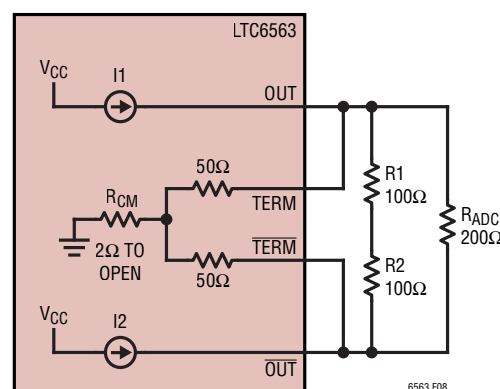
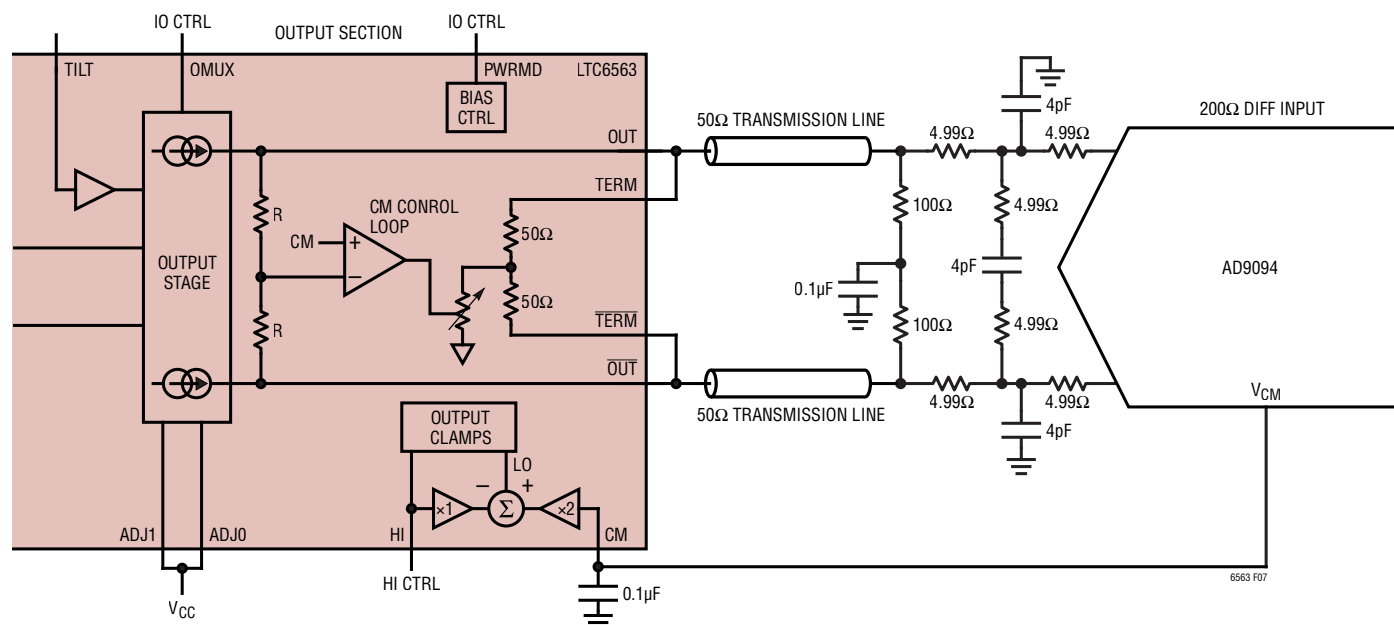

Figure 8. Equivalent Circuit for Driving an ADC with no GND (CM Referenced) External Load
Figure 7. Typical Connection for CM Control/ADC Driving
CM servo loop's voltage range is easily calculated using Ohm's law, as the output circuit can be described as a pair of current sources and a resistor network (see Figure 8). The amount of current supplied by the OUT and $\overline{OUT}$ current sources is determined by the ADJ setting, and the impedance at the output pins is determined by the internal and external resistor networks. These factors will determine the range of possible DC voltages at the outputs.
With an external load connected, the output CM current splits between the internal TERM pin and the external load. However, with the configuration shown in Figure 7 and simplified in Figure 8, with no external CM DC current path to ground, the entire output CM current must flow through the internal TERM resistor(s).
In Figure 8, the external loading by the ADC and the cable termination network of R1, and R2 has no effect on the CM loading of the LTC6563. The range of output CM voltage will be as follows:
Naturally, if the ADJ setting is changed, the V_{CMO} range will vary accordingly. Table 5 shows the minimum computed output CM voltage, output full scale swing, and TIA gain (RT) for various ADJ settings applied to the circuit in Figure 7.
Table 5. CM Minimum Voltage and Other Operating Performance Values for Various ADJ Settings of Figure 7